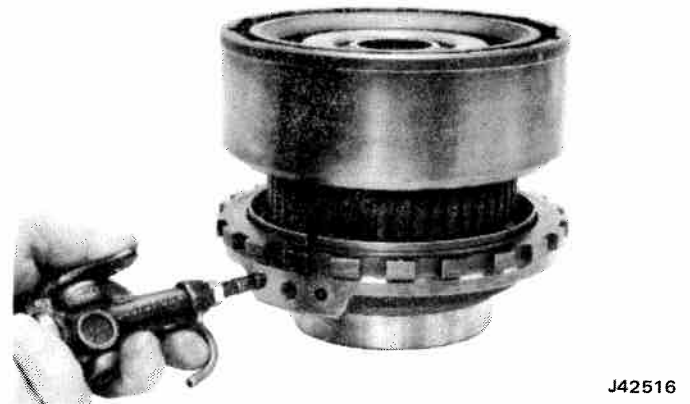

Fig. 7-86 Checking Operation of Direct Clutch Assembly
(13) Position direct clutch assembly on center support assembly, and apply compressed air to check operation of direct clutch (fig. 7-86).